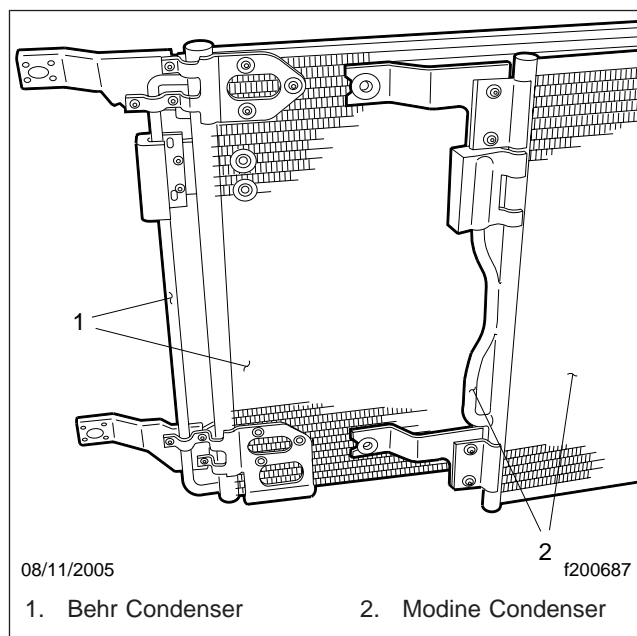

Fig. 1, Behr and Modine Condensers
- See Fig. 1 for an illustration that shows the difference between the Behr and Modine condensers.